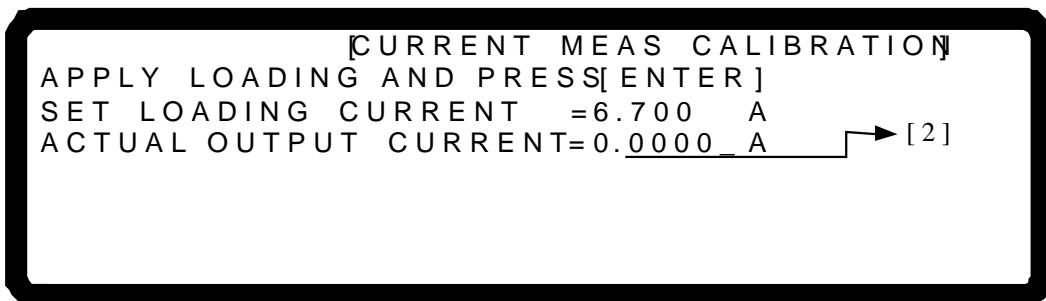

Figure 3-144
7. Press “**↓→**” to perform the 6.7A calibration. The cursor will stop at position [2] as shown in Figure 3-144. Set the Electronic Load to draw 6.700A current. Enter the current read by the ULTRASTAB SATURN (DVM) and press “**ENTER**” to confirm. Using the calibration values obtained, the system will calculate the calibration factor for the low current range.